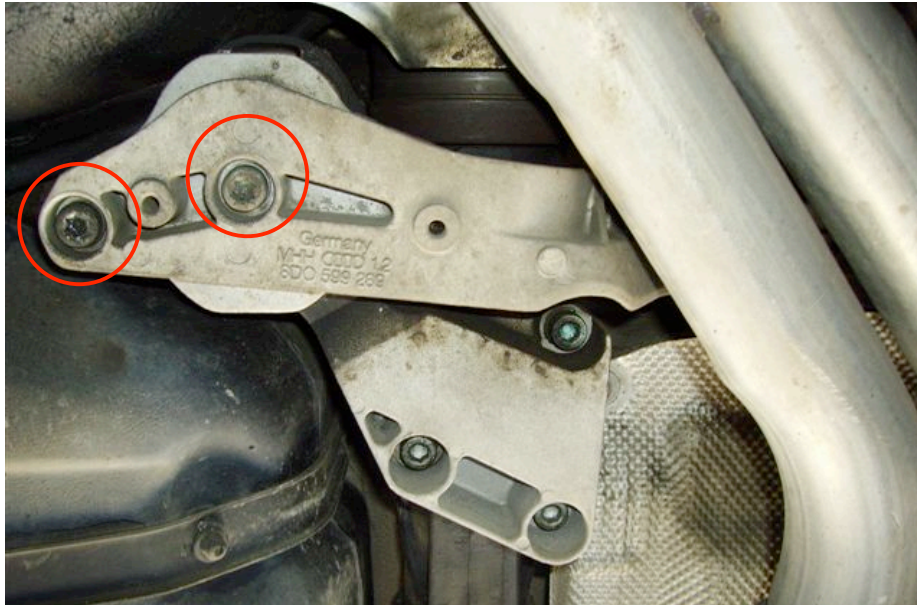
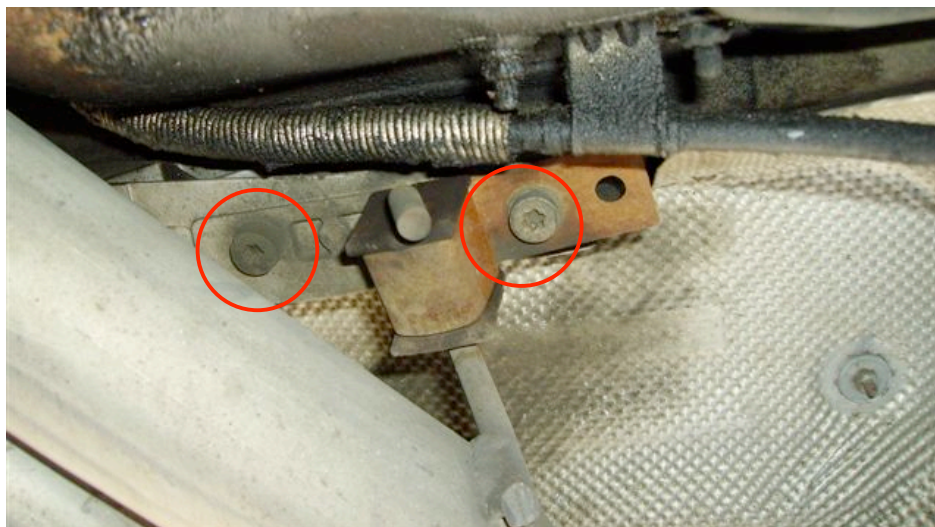
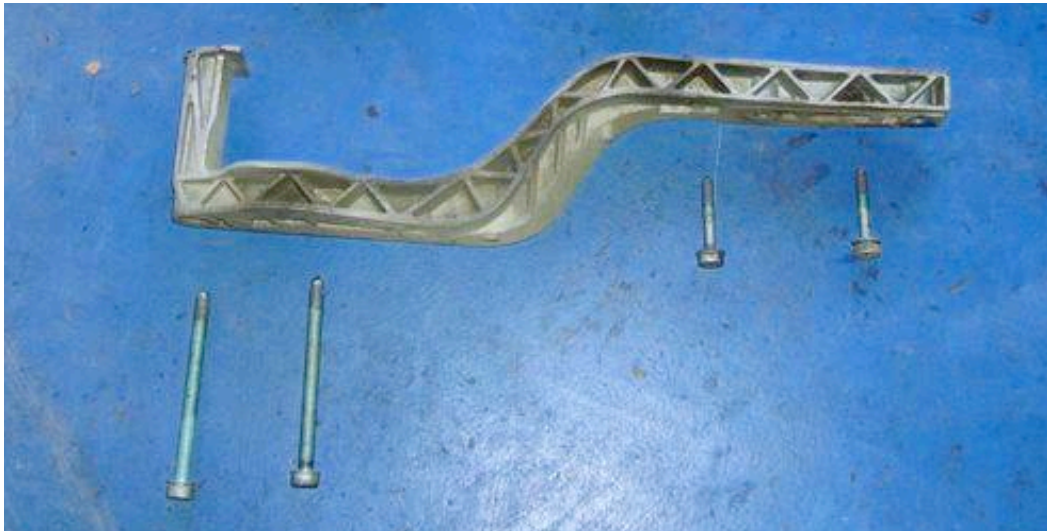

Figure 1
Figure 2
Figure 3
- 1) Safely support your vehicle on jackstands. Support the long nose of the differential with an additional stand. A large aluminum brace (Figure 3) acts as part of the mounting system for the rear differential and also is one of the center muffler exhaust hanger mounting points. This brace is held in with 4 Torx bolts – 2 long bolts (T50) on the passenger side (Figure 1) and 2 short bolts (T45) on the driver side (Figure 2). These 4 bolts need to be removed (Figure 3). Remove the aluminum brace from the vehicle. Note: It may be necessary to remove the rear exhaust hangers to allow the exhaust system to hang lower to gain access to one of the mounting bolts and to remove the aluminum brace. This only applies to some vehicles with aftermarket exhaust systems; generally cars fitted a dual exhaust.
- 3) Clean the surface on the differential housing where the Apikol diff mount will be installed – as depicted in Figure 5. Also clean the surface of the aluminum cross brace (Figure 3) and the area of the chassis that will contact the differential mount.